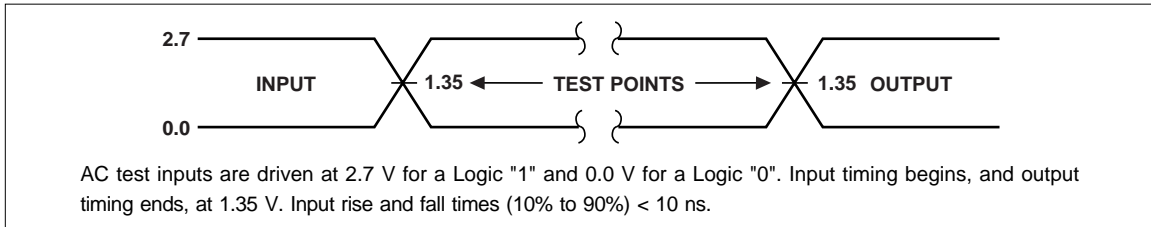

Fig. 9 Transient Input/Output Reference Waveform for V_{cc} = 2.7 to 3.0 V
1. See AC Input/Output Reference Waveform (Fig. 9 through Fig. 11) for maximum allowable input slew rate.